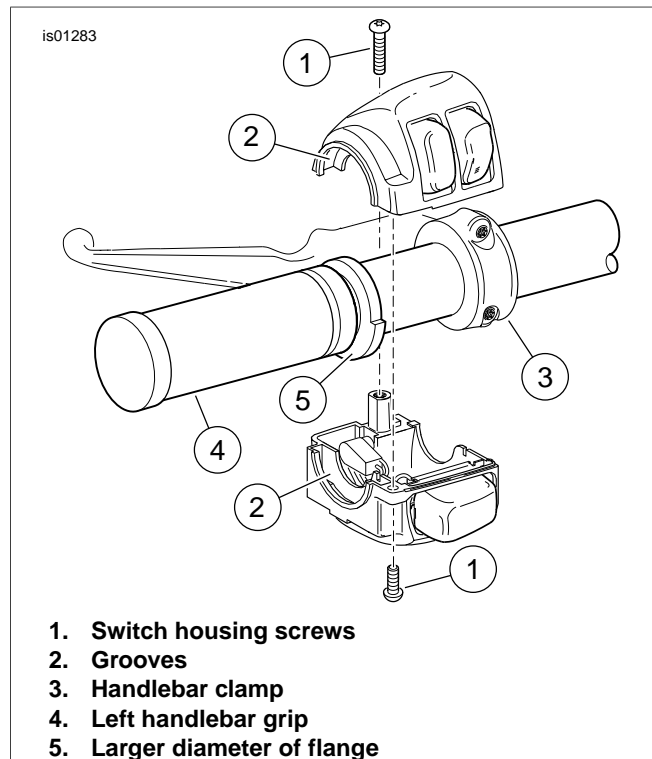

Figure 4. Left Handlebar Switch Housing
3. See Figure 4. Position the left-side heated grip (4) so the larger diameter portion of the flange (5) is at the bottom. Push the grip fully onto the handlebar.
4. Position the lower switch housing beneath the grip so that the grooves (2) on the outboard side of the switch housing fit over the flange on the end of the grip.
14. Refer to Figure 4, which shows the similar left-side switch mounting. Position the lower switch housing beneath the grip so that the grooves (2) on the outboard side of the switch housing fit over the flange on the end of the grip.